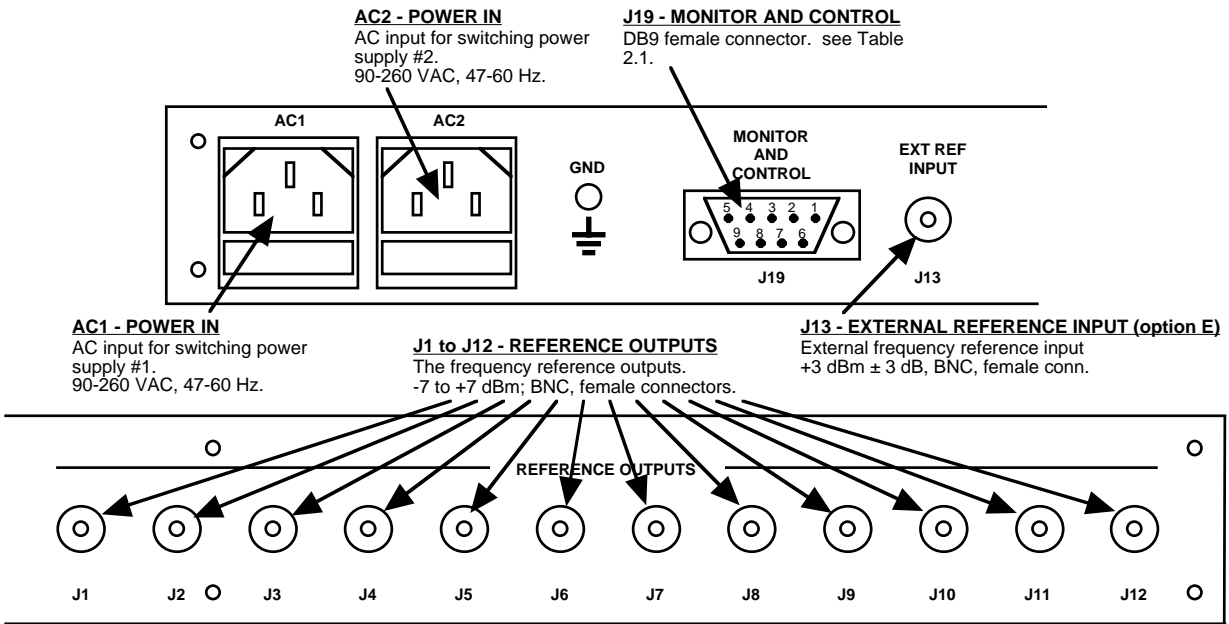
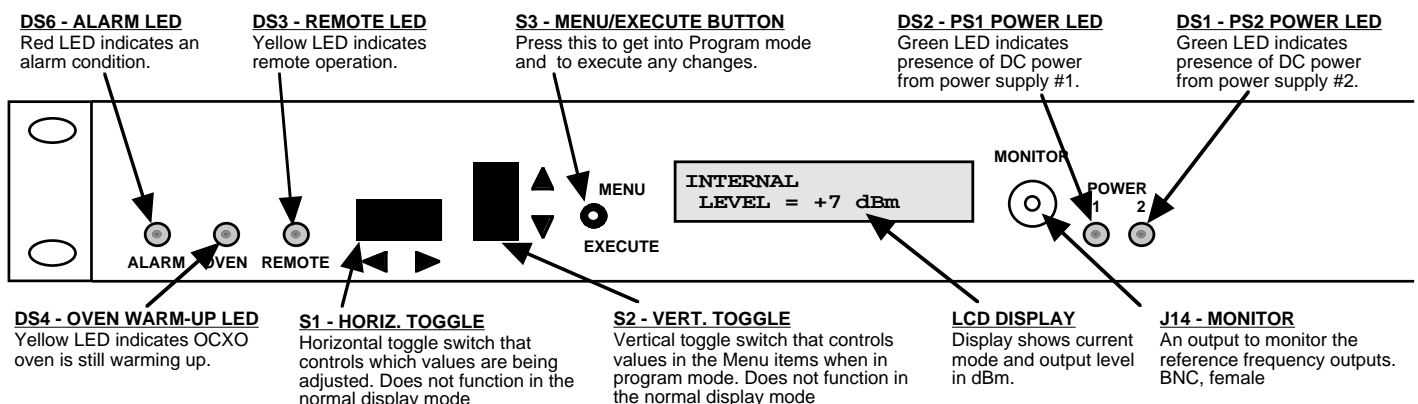

FIGURE 2.1 2099-10012 Rear Panel Outputs
FIGURE 2.2 Front Panel Controls and Indicators
** FAULT occurs when in EXT LOCK AUTO mode and the external reference fails. This status can be reset remotely using the command in Table 1.2 or manually by pressing Menu/Execute followed by pressing up once or down once on the vertical toggle switch on the front panel (see Figure 2.2).
2.2 Rear Panel Output Signals - Figure 2.1 shows the input and output connectors on the rear panel.
1. Connect 90-260 VAC, 47-63 Hz to AC1 and AC2 connectors (Figure 2.1).
2. Be sure DS1 and DS2 LEDs (green, POWER) are on (Figure 2.2).
5. (option E only) Choose one of the three (3) modes (Internal, Ext Lock, or Ext Lock Auto) in which to operate the unit.
7. Connect J1 thru J12 (REFERENCE OUTPUTS) to desired equipment (Figure 2.1).
8. Monitor reference output signal with J14 (MONITOR) (Figure 2.2).
Alarm indications appear on the LED (see Figure 2.2).